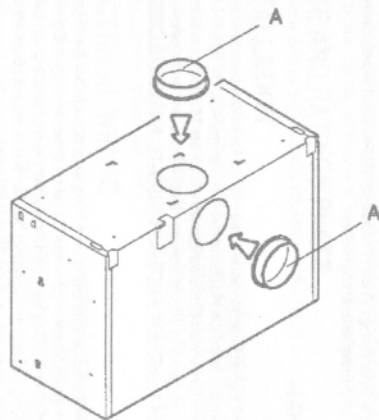

Fig. 3
1) **Suction operation** - Pendant le fonctionnement, la partie mobile doit être relevée au maximum pour garantir un fonctionnement correct de la hotte et une meilleure aspiration. Si cette partie reste baissée, cela peut causer une surchauffe du moteur. The kitchen hood is fitted with two discharge outlets, one situated on the top and another on the rear of the unit. If the rear outlet is to be used, remove the metal cover present on the outlet by pressing in with the fingers until it comes off, then apply the collar strip (A) supplied in the accessory kit for installation (See Fig. 3). Instead, if the top outlet is to be used, then proceed as illustrated in figure 3. Make sure that the Suction/Purifier selection lever is shifted to the SUCTION position (position "R" in fig. 4).